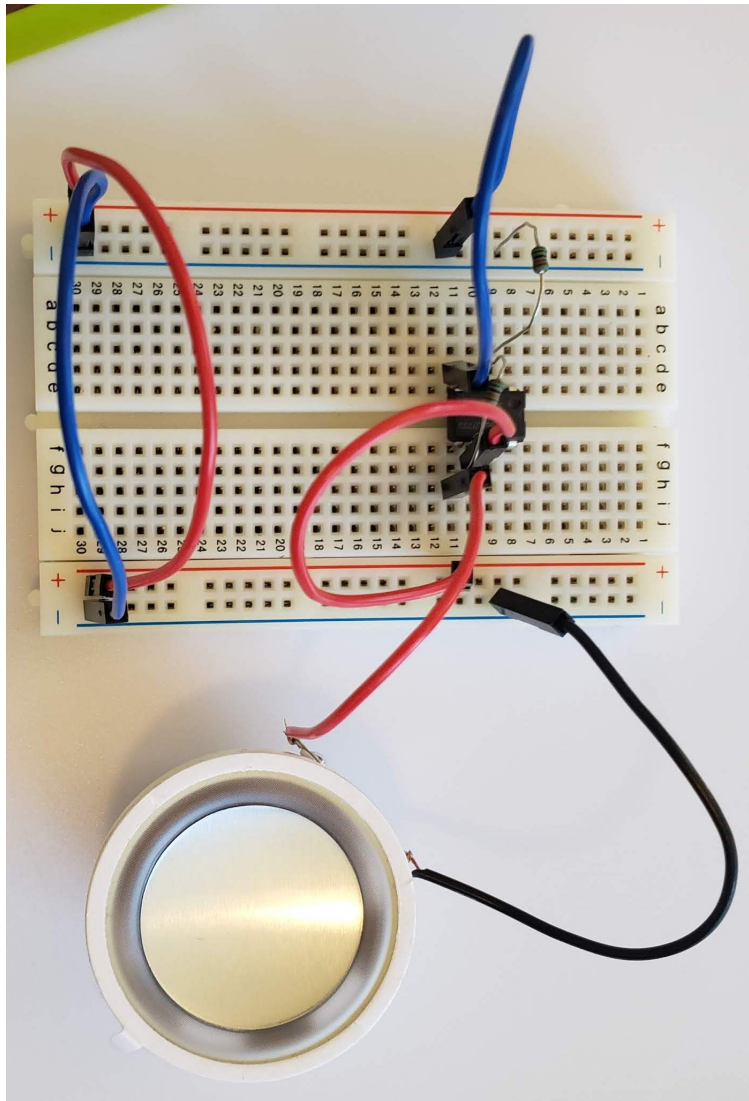

Figure 9: Connect speaker to the circuit.
- 3.9. Now connect one speaker wire to  $v_{out}$  and the other speaker wire to a  $GND$  power rail. See Figure 9.